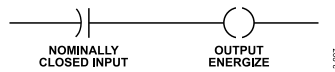

Figure 104. Sample Network
2. The network is simple with a **Nominally Closed Input (Examine Off)** as the first part of the rung and an **Output Energize (Energize Coil)** on the end of the rung (see Figure 104).